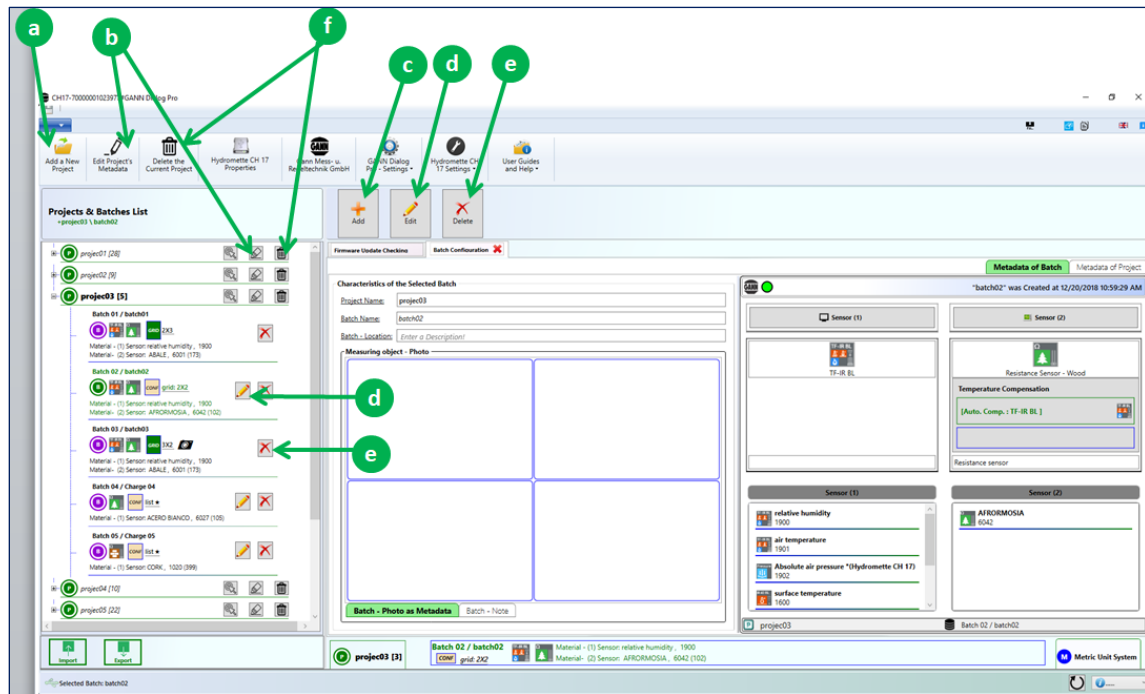

Figure 6-1: adding project and batch metadata
Figure 6-1 shows different actions that can be performed to add project or batch metadata:
- Click on the button “Edit” (see the arrow **[b]** in Figure 6-1)
- Click on the “Edit” button (d) in Figure 6-1)
To add metadata to an existing project, click on the “Edit” button (b) in Figure 6-1). Then the window shown in Figure 6-2 will appear. You can now select each metadata group on the left panel (a) in Figure 6-2) and fill in the corresponding details (f) in Figure 6-2).
In order to add metadata to existing batches click on the “Edit” button (b in Figure 6-1), or use the context menu on the selected batch item.